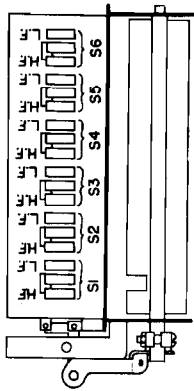

Fig. 8 - PUSHBUTTON TUNER SWITCH HIGH FREQ. - LOW FREQ. (AS VIEWED FROM REAR)
2. Referring to diagram of tuner switch positions, Fig. 8, remove the following components in the order designated.